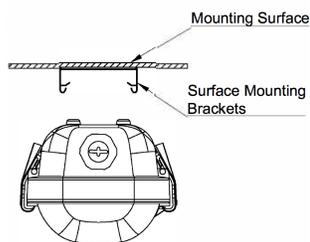

Fig 2
5. Push the Housing into the Surface Mounting Brackets as shown in Fig 2. Ensure that the Housing is secure to the Surface Mounting Brackets.